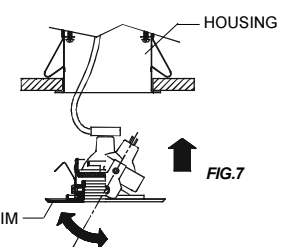

FIG.7
- Push the trim into the housing. (Fig.7)